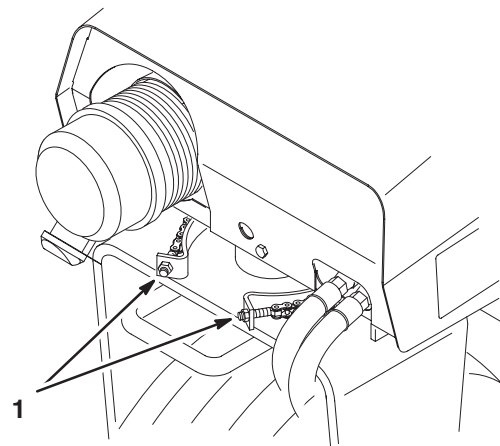

Figure 24
2. Adjust the locknuts until the chain is snug on both sides of the sprocket (Fig. 24).